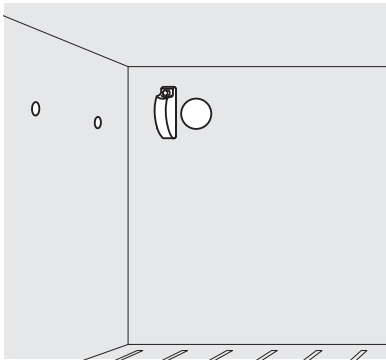

Figure 1
4. Use a plastic putty knife to remove plugs from inside the freezer compartment. See Figure 1.
5. Remove the harness connector cover, where the ice maker will plug in, by removing the 1/4" hex head screw. See Figure 1.